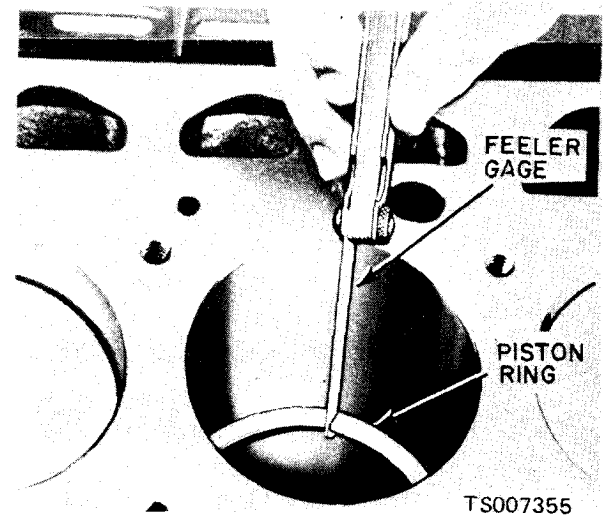

Figure 6-26. Checking Ring Gap.
(1) Calculate the size piston to be used by taking a cylinder bore check, or use the properly fitted piston, determined in subparagraph a.
(2) Select the proper ring set for the size cylinder bore.
(3) Position the ring in the cylinder bore in which it is going to be used.
(4) Push the ring down into the bore area where normal ring wear is not encountered.
(5) Use the head of a piston to position the ring in the bore so that the ring is square with the cylinder wall. Use caution to avoid damage to the ring or cylinder bore.
(6) Measure the gap between the ends of the ring with a feeler gage (fig. 6-26). If the ring gap is less or greater than the specified limits, try another ring set.